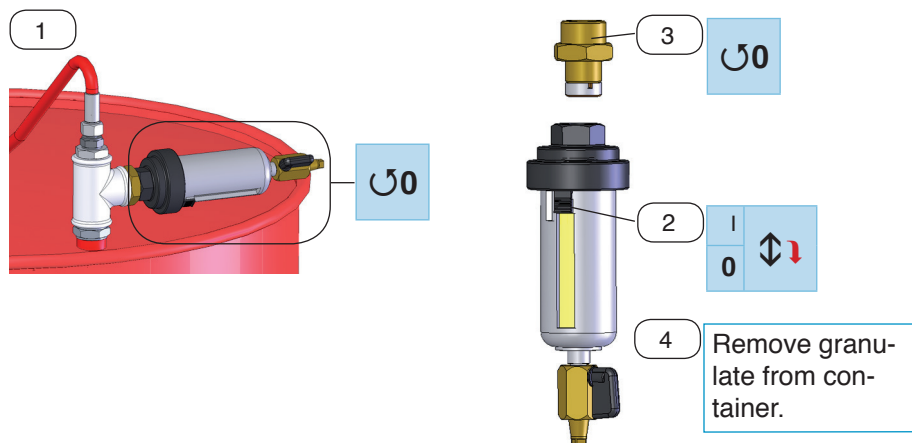
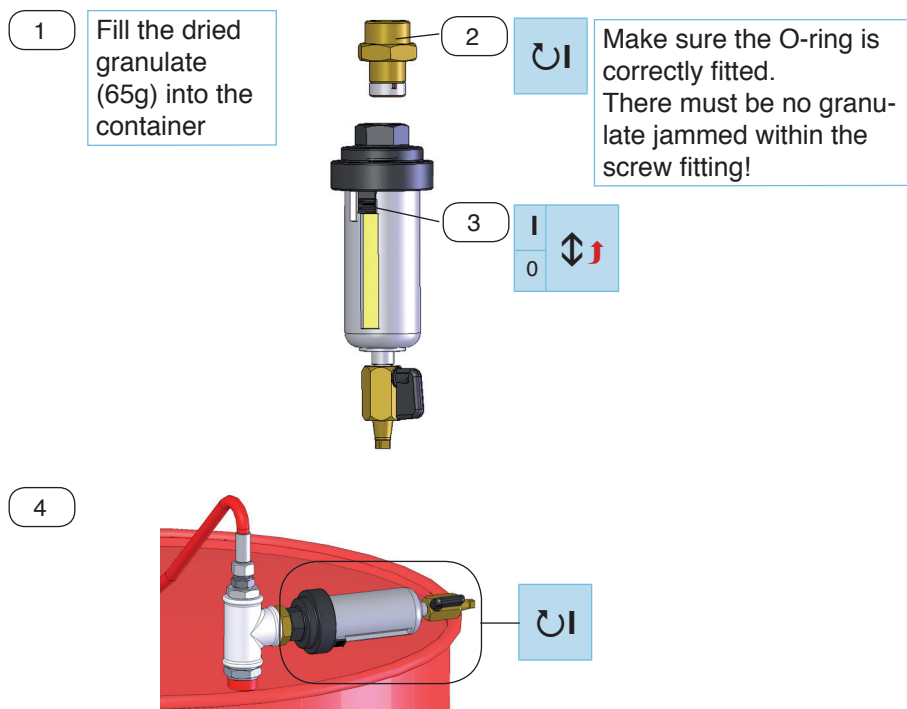

Fig. 12.6
Fig. 12.7
- If humidity saturation is reached, granulate colour changes from orange to colourless. For the filter to function properly, the granulate needs to be regularly dried, (Fig. 12.6) + (Fig. 12.7).